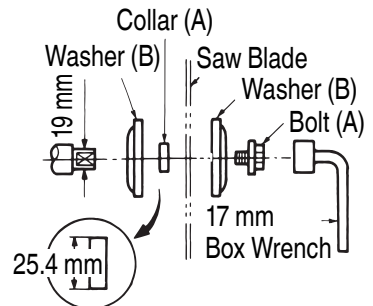

**Fig. 13**
- (1) Press the spindle lock and loosen the bolt (A) with the 17 mm box wrench. As the bolt (A) is of left-hand thread, it is loosened by turning in the direction indicated in **Fig. 13**.
- (5) Thoroughly clean washer (B) and the bolt (A) and install them onto the saw blade mounting spindle.
- (6) Press the spindle lock and tighten the bolt (A) by turning it with the 17 mm box wrench in the direction shown in **Fig. 13**.